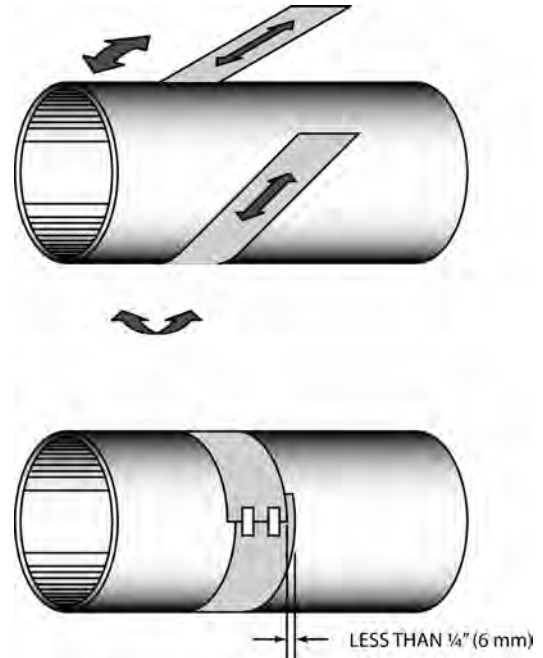

Figure 2.7
1. Wrap the paper around the pipe in the manner shown in **Figure 2.7** on page 2.14. Align the paper ends to within 1/4 inch [6 mm].